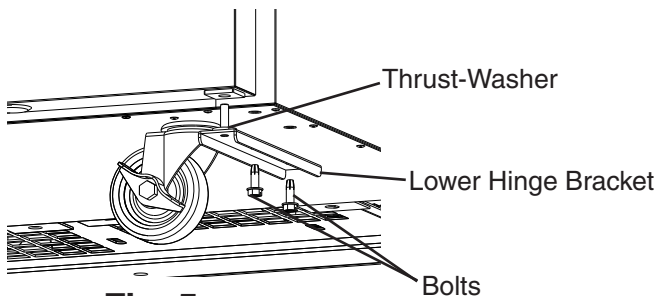

Fig. 5
- 4) While maintaining a hold on the door, remove the lower hinge bracket. See Fig. 5. Leave the thrust-washer in place.